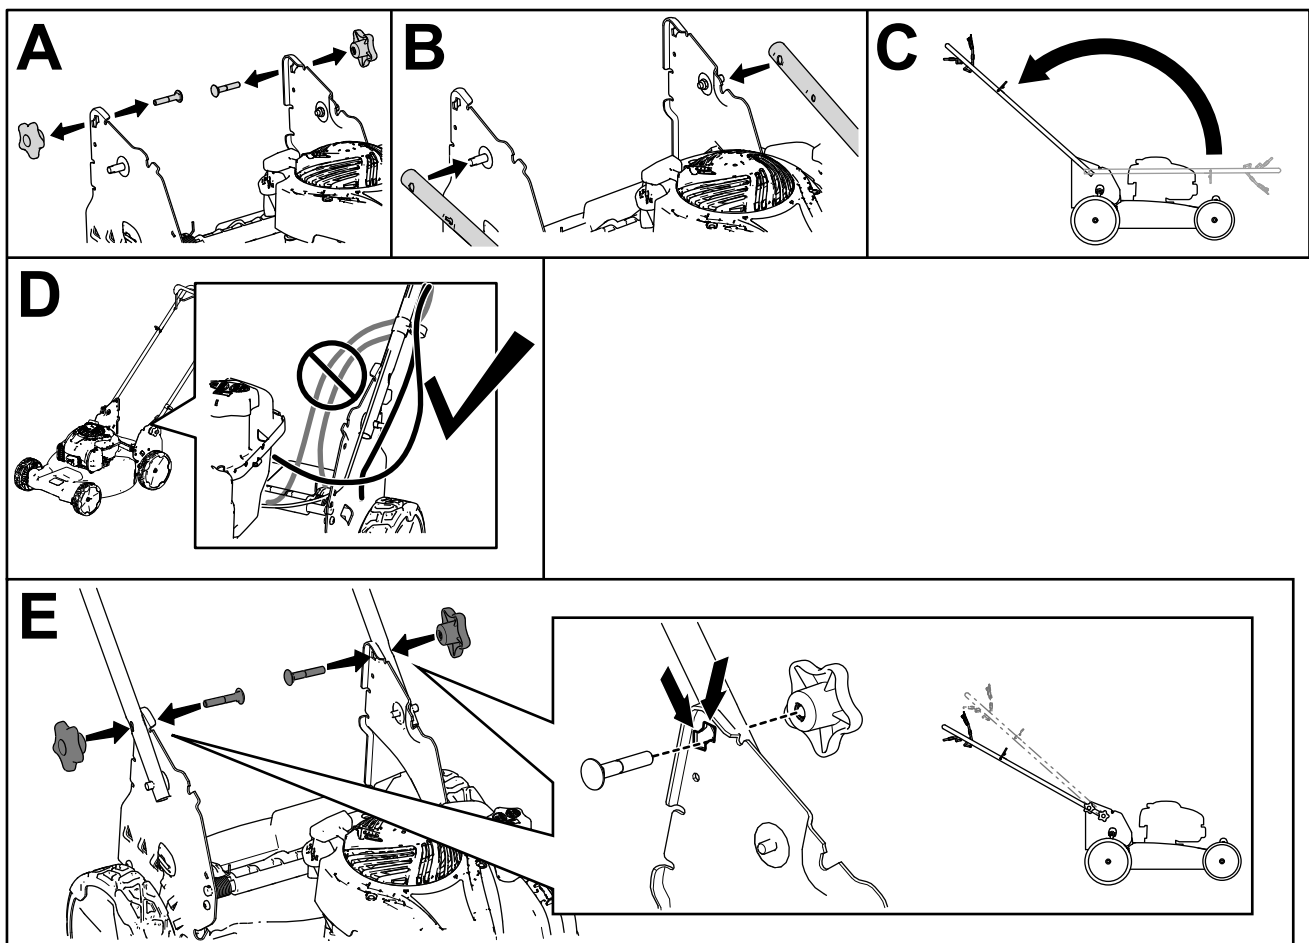

Figure 3
1. Remove the handle knobs and carriage bolts from the handle brackets (A of Figure 3).
2. Attach the handle to the machine using the holes at the end of the handle (B of Figure 3).
3. Move the handle rearward to the operating position (C of Figure 3).
4. Ensure that the cables are routed to the outside of the handle (D of Figure 3).
5. Secure the knobs and carriage bolts to lock the handle into the upper or lower operating position (E of Figure 3).